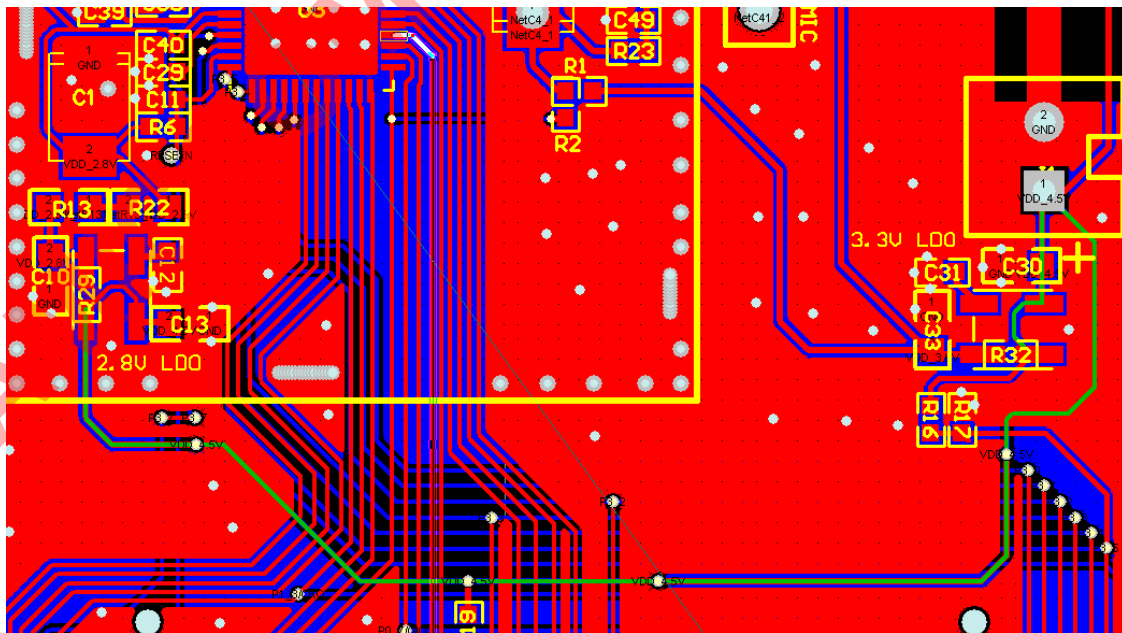

Fig 2.2g Power lines(green)
9. The power lines supply of 2.8V LDO and 3.3V LDO, should be separated from the source power and routed independently. Please refer to the green traces in Fig. 2.2g